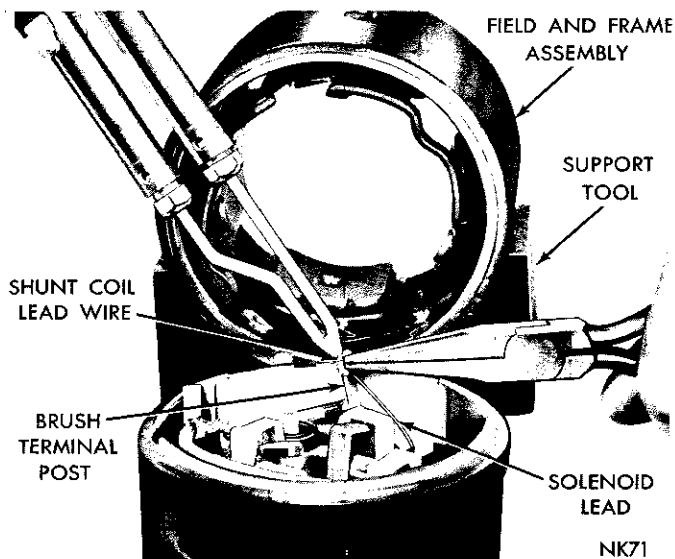

Fig. 3—Unsoldering the Shunt Coil Lead Wire
(4) Support the brush terminal by placing a finger behind the terminal and remove the terminal screw.
(5) Unsolder the shunt field coil lead from the starter brush terminal, Fig. 3.